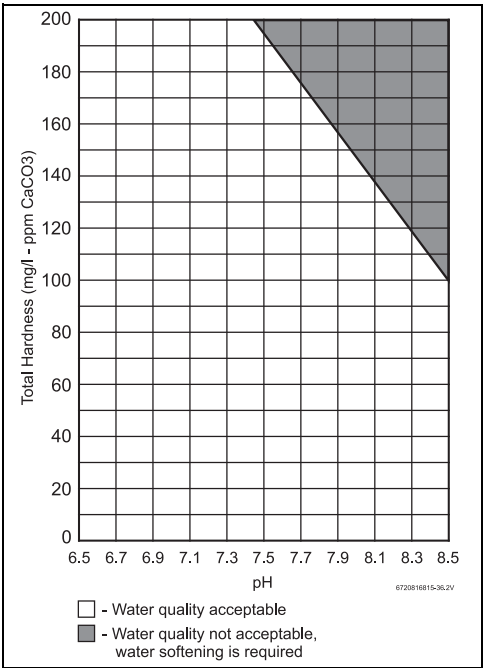

Fig. 11 Water total hardness and pH values
Water quality can have an impact on appliance longevity. Water supplied to the Greentherm T9800 SEO must be in accordance with table 11 and fig. 11.
For water analysis data call your local water department, or if on a well, have well water analyzed periodically. Heavy scale will form if the combination of water total hardness and pH exceeds the values specified in fig. 11 (grey area), Bosch recommends consulting a local water treatment professional for water softening/conditioning options.
1. Total Harness and pH maximum values must be evaluated in combination. Indicated maximum values will be reduced according to fig. 11.